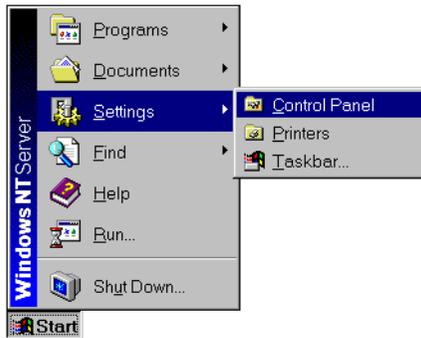

Figure 3-1. Open the Windows NT 4.x Control Panel
2. Click Start, and select Settings->Control Panel within the Start menu (Figure 3-1).